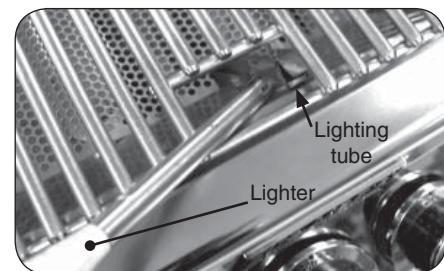

Fig. 5-2 - Manual lighting
2. Insert either a burning long-barrel butane lighter or a burning long-stem match through the cooking grid opening to the top of the lighting tube. (Fig. 5-2). For backburners, hold the flame against the perforated material of the backburner. For sideburners, hold the flame against the burner.
4. If the burner does not light, **immediately depress the knob and turn the valve to OFF**. **WAIT FIVE (5) MINUTES** before repeating steps 2 through 4 of the **MANUAL LIGHTING** instructions.